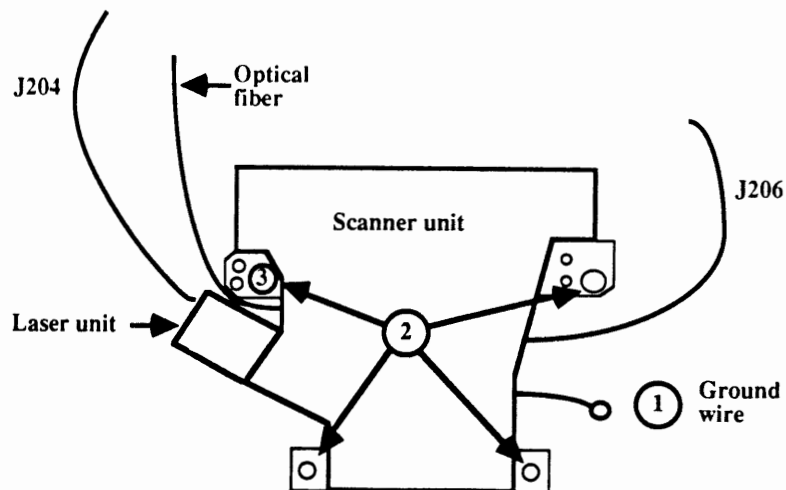

FIGURE 2-8
2. Unplug connectors J203 (the optical fiber), J204, and J206 from the DC Controller board (Figure 2-8).
3. Disconnect the ground cable (Figure 2-8, #1). Make sure to capture the star washer under the lug.
4. Remove the four large mounting screws (Figure 2-8, #2). Make sure to remove the spacer and washers with the long screw nearest the laser (Figure 2-8, #3).
3. Replace the four large mounting screws. NOTE: The long screw goes through the spacer and washers in the hole nearest the laser unit (Figure 2-8, #3).